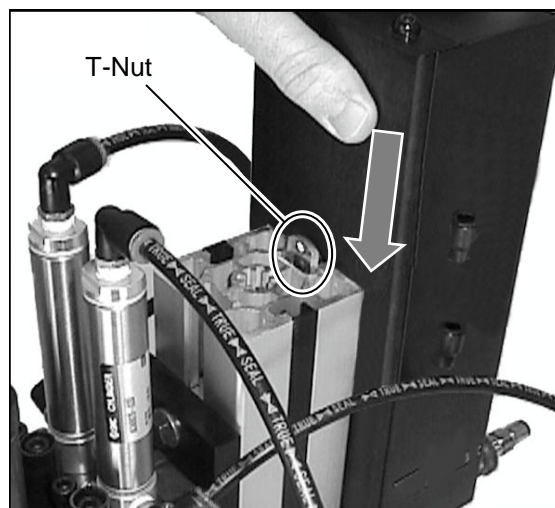

Figure 2-2 Installing EZ-Air
3. Loosen the mounting bolt (Figure 1-1) on the EZ-Air with the 5mm hex wrench included in the shipping kit so that the T-nut will slide into the vertical support slot (Figure 2-2). Adjust the EZ-Air so that its top is approximately at the same height as the air cylinder and, making sure that the guide on the lower end of the EZ-Air is in the vertical support slot, tighten the mounting screw.